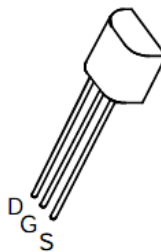
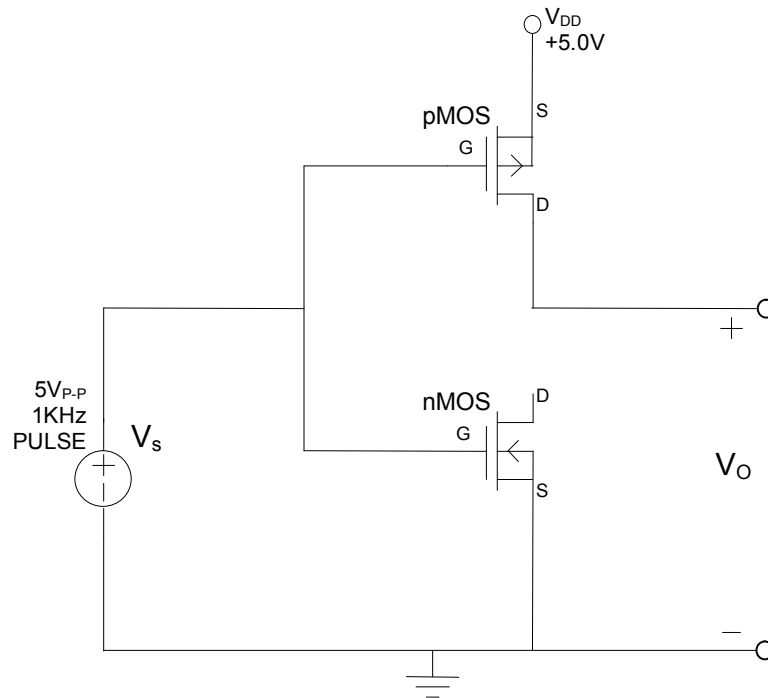

Figure 12.3: Pin diagrams for ZVN4424A (nMOS) and ZVP4424A (pMOS)
Figure 12.4: CMOS Inverter
- You should complete the simulation of a CMOS inverter (Figure 12.3) and 2-input CMOS NAND gate (Figure 12.4), so that you can compare your experiment results with the simulation.
Pin diagram for ZVN4424A (nMOS) and ZVP4424A (pMOS) is shown in Figure 12.3.
1. Build the circuit shown in Figure 12.4. Use the +5V terminal (located on the bottom left corner of the ELVIS workstation) as the power supply and the function generator for the input signal. Connect the scope CH0 and CH1 to the input and output respectively to observe the operation. **Set SCOPE coupling to DC for both CH0 and CH1.**